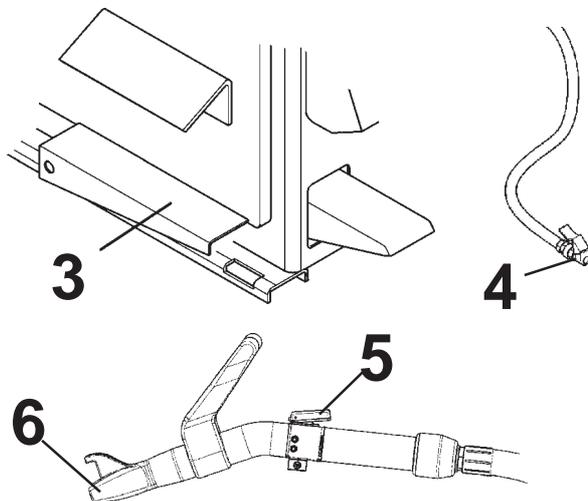

Fig. 13.a
E Turn adjustment knob (2, Fig.13) for positioning mount/ demount head to rim diameter.
F Press bead-seater pedal on left side of the machine (3, Fig.13/13a) half way down: air will come out from inflation hose end (4).